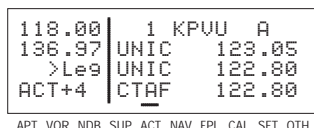

Figure 4-40
2. Once the desired waypoint is found, the right inner knob may be pushed back to the "in" position and rotated to display any of the other waypoint pages (figure 4-40).